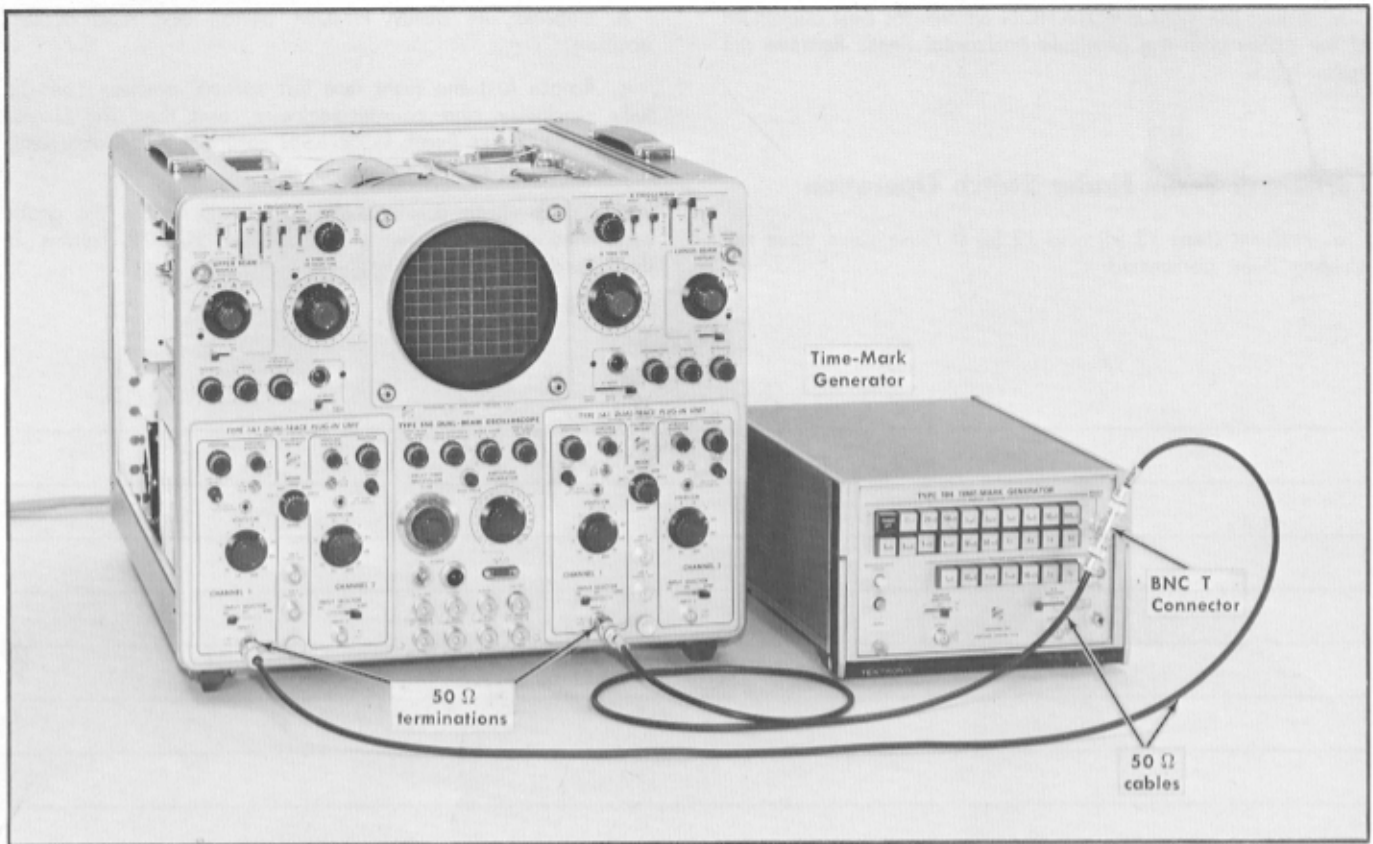

Fig. 6-17. Test setup for Geometry adjustment.
a. Remove both Test Load units, and in their place install Type 1A1 plug-in units. The test equipment setup is shown in Fig. 6-17.
b. Apply 1-millisecond markers from the time-mark generator (item 4 of Recommended Equipment) through a BNC T connector, two 50 Ω cables and 50 Ω terminations to the Type 1A1 vertical inputs of both plug-ins.